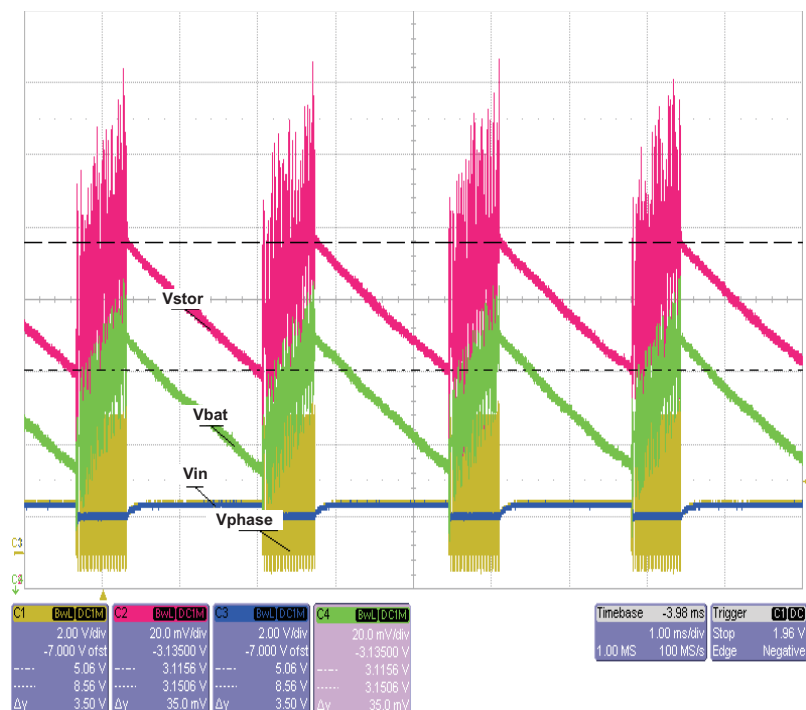

Figure 7. EVM Operation Near OV With 100-Ω Battery Impedance
2. The input source has enough energy to charge the V_{STOR} up to the OV setting; and, when the boost converter stops switching V_{STOR} will discharge down to the battery's cell voltage which is ~3V which is below the OV reset hysteresis. See Figure 7 for operation near OV. Note the hysteresis of V_{STOR} is around 35mV here, but this can vary depending on the input, output voltage, the source and battery impedance, and the number of pulses for each operation period of the boost converter.